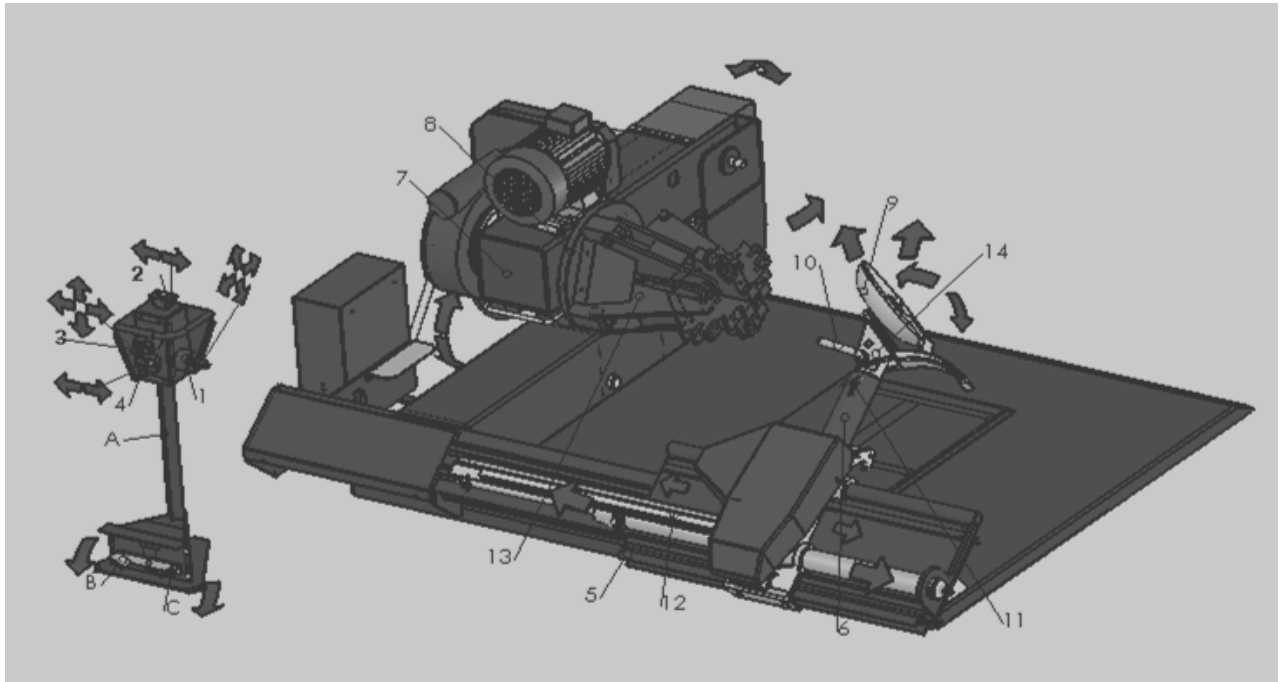

Fig22 Structure diagram B
Switch in reference to Fig 22
Function check Fig22 Structure diagram B
1 Check if the movement of mechanical arm (6) and tool head (9) is correct. (See Fig 22 and Fig 23)
Push rightward switch 2 (Fig 22) , mechanical move rightward.
Push leftward switch 2 (Fig 22) , mechanical move leftward.
- 2 Check if the movement directions of the carriage (5) and tool arm (7) is correct (see Fig 22):
correct (see Fig 22):
To the wheel of the diameter less than 800mm and exceed 1500mm, you should insert the pin into the second hole. (See the 11 in Fig22)